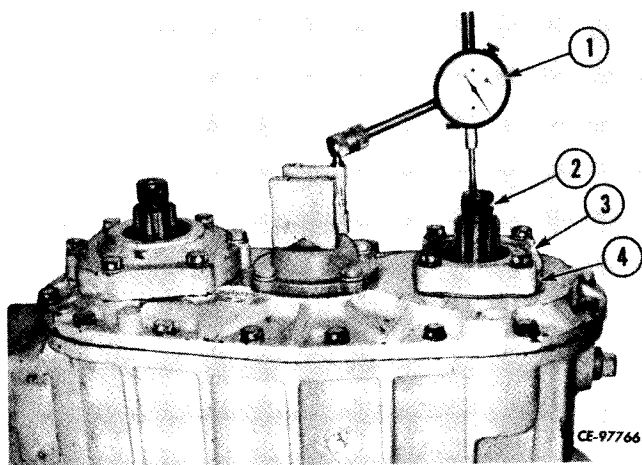

Figure 4-99
Position a dial indicator (1, Fig. 4-99) against end of driven gear (2) and measure end play in gear assembly. Refer to "TOLERANCES" under "SERVICE INFORMATION," for recommended end play.